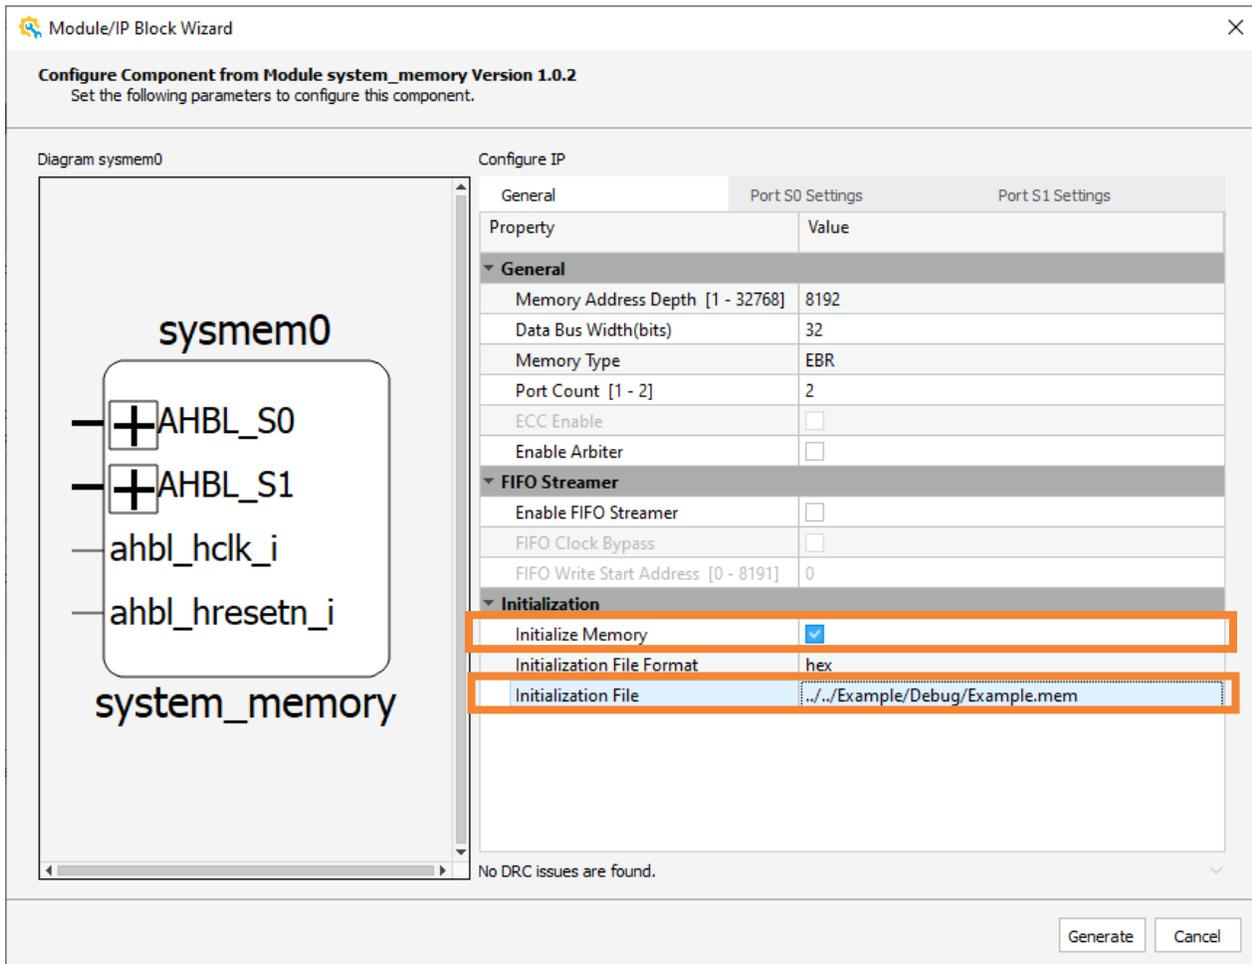

Figure 3.29. Configure Module System Memory
- Enable the checkbox for **Initialize Memory** for *system_memory* IP module from the **Initialization** area of the **General** tab, and set **Initialization File** generated from the corresponding C/C++ project (Figure 3.29).